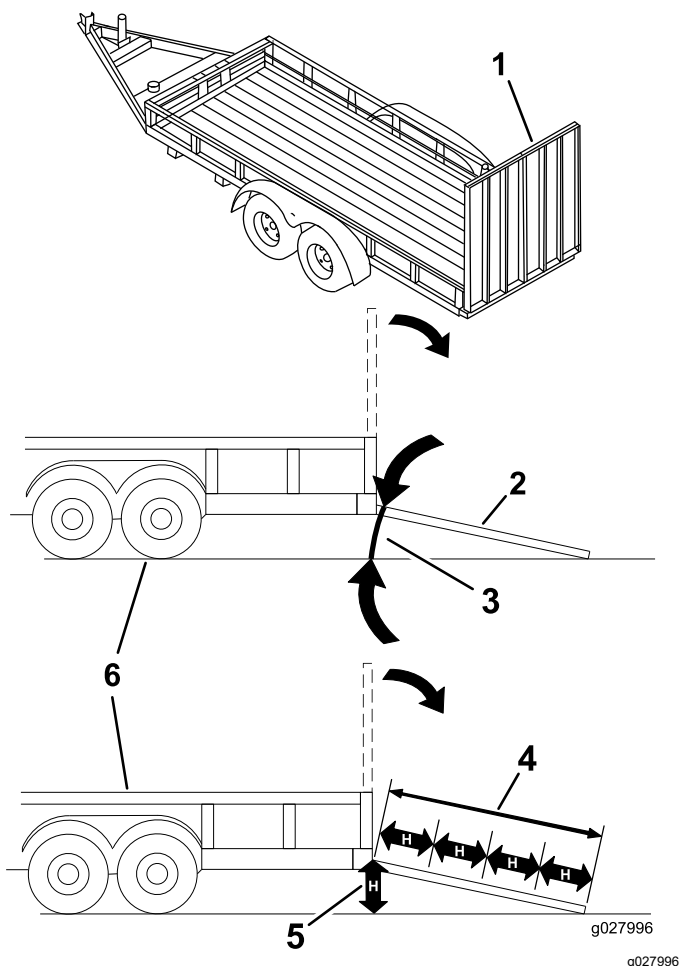

Figure 29
Loading a machine onto a trailer or truck increases the possibility of tip-over and could cause serious injury or death (Figure 29).
3. Lower the ramp, ensuring that the angle between the ramp and the ground does not exceed 15 degrees (Figure 29).
1. Lower the ramp, ensuring that the angle between the ramp and the ground does not exceed 15 degrees (Figure 29).